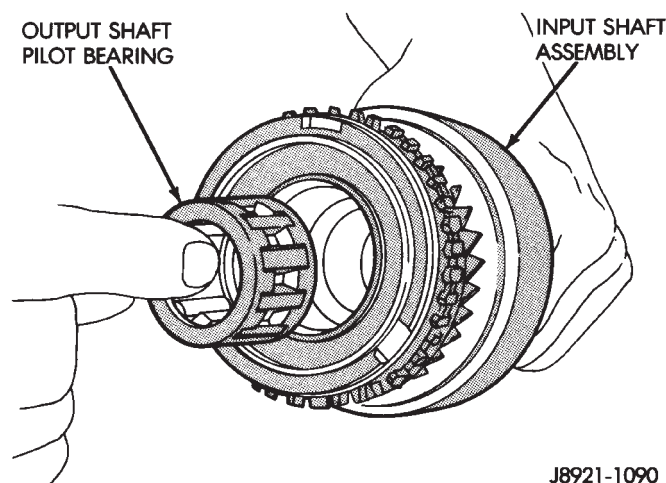

Fig. 107 Remove Output Shaft Pilot Bearing
(3) Remove the output shaft pilot bearing from the input shaft or output shaft (Fig. 107).
(4) Lubricate output shaft pilot bearing bore of input shaft with petroleum jelly.
(5) Install output shaft pilot bearing in input shaft bore (Fig. 107).
(6) Install the fourth gear synchronizer ring onto the input shaft.
(7) Install input shaft to output shaft.